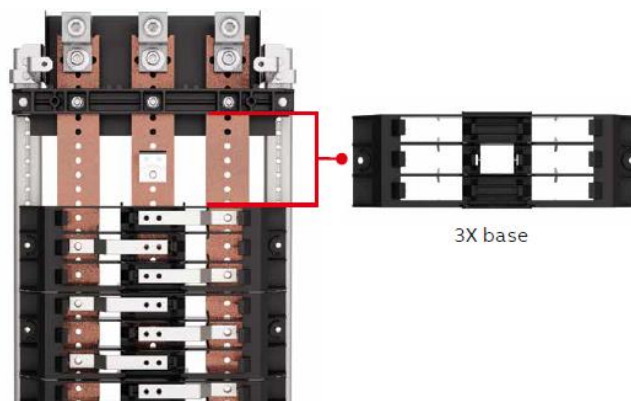
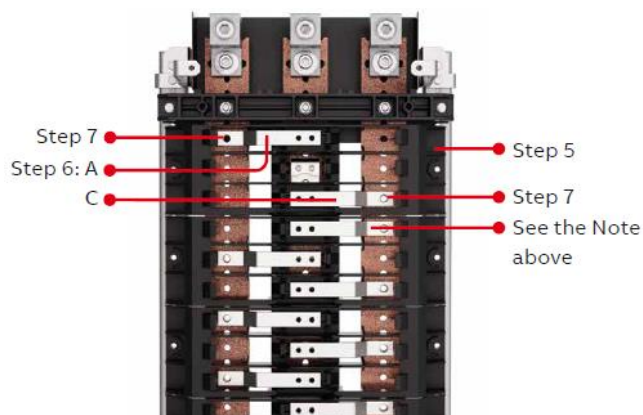

Figure 2. Step 2
Figure 4.
**Step 2:** Remove quantity (1) 3X base. See Figure 2.
**Step 3:** Add B-phase strap using (1) 1/4 x 20 screw removed from A or C strap
**Step 5:** Replace 3X base. See Figure 4
**Step 6:** Replace A and C phase straps using 1/4 x 20 screws. See Figure 4.